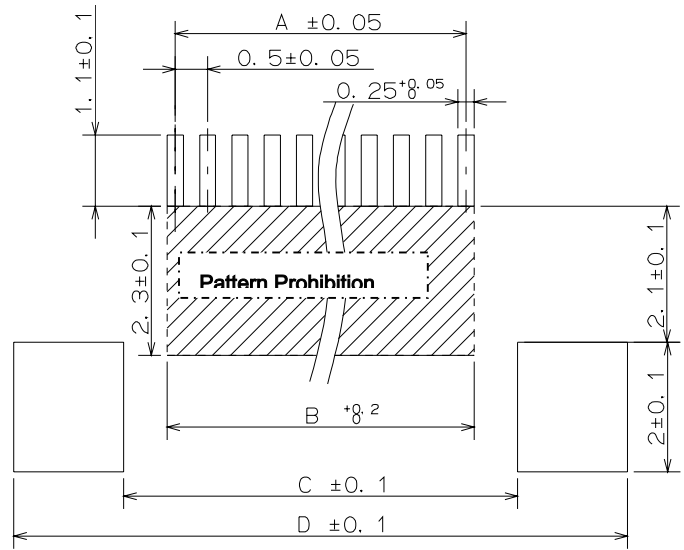

Fig. 5. Type XF2M/XF2H common
- Common pattern for both XF2M/XF2H connectors (Fig. 5).